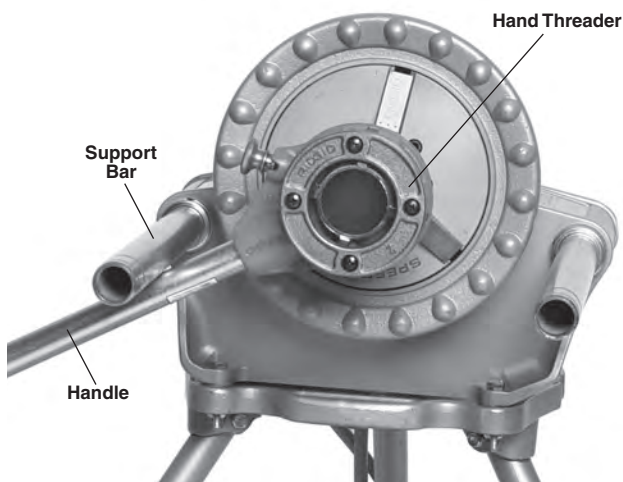

Figure 20 – Removing Die Head From Threaded Pipe (Handle Against Bottom of Bar.)
- c. Fully extend the switch side support bar and raise threader handle against bottom of the bar. Hold the end of threader handle with left hand. To avoid pinch point injuries, do not place hand or fingers between the threader handle and support bar. Keep handle in contact with the support bar (see Figure 20).
1. Hold the threader handle against bottom of switch side support bar. To avoid pinch point injuries, do not place hand or fingers between the threader handle and support bar. See Figure 20 for proper operating position.